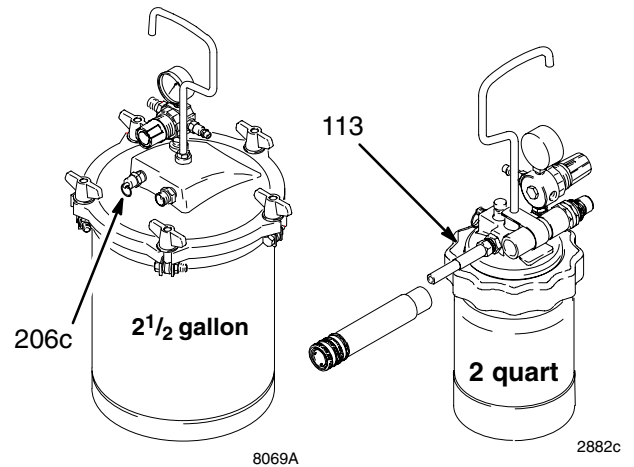

Fig. 7
3. If using remote pressure pot, relieve pressure by following these steps (see Fig. 7):